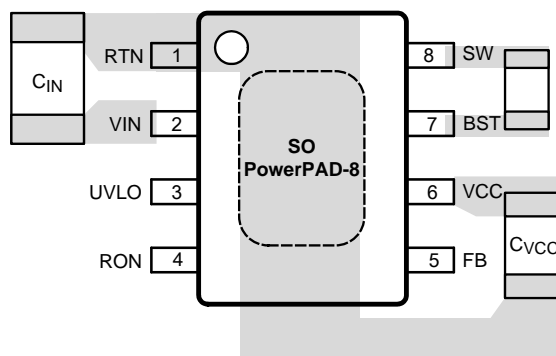

Figure 26. Placement of Bypass Capacitors
1. C_{IN} : The loop consisting of input capacitor (C_{IN}), V_{IN} pin, and RTN pin carries switching currents. Therefore the input capacitor should be placed close to the IC, directly across V_{IN} and RTN pins and the connections to these two pins should be direct to minimize the loop area. In general it is not possible to accommodate all of input capacitance near the IC. A good practice is to use a 0.1- μ F or 0.47- μ F capacitor directly across the V_{IN} and RTN pins close to the IC, and the remaining bulk capacitor as close as possible (see Figure 26 Placement of Bypass Capacitors).
2. C_{VCC} and C_{BST} : The V_{CC} and bootstrap (BST) bypass capacitors supply switching currents to the high- and low-side gate drivers. These two capacitors should also be placed as close to the IC as possible, and the connecting trace lengths and loop area should be minimized (See Figure 26).